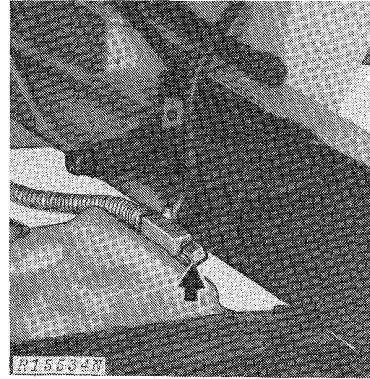

Fig. 7-Steering Line Junction Block Fitting
4. Remove right- and left-hand steering lines. (Turn front fitting to the left-hand steering line junction block down 90° to prevent interference with pressure control valve fitting) (Fig. 7).